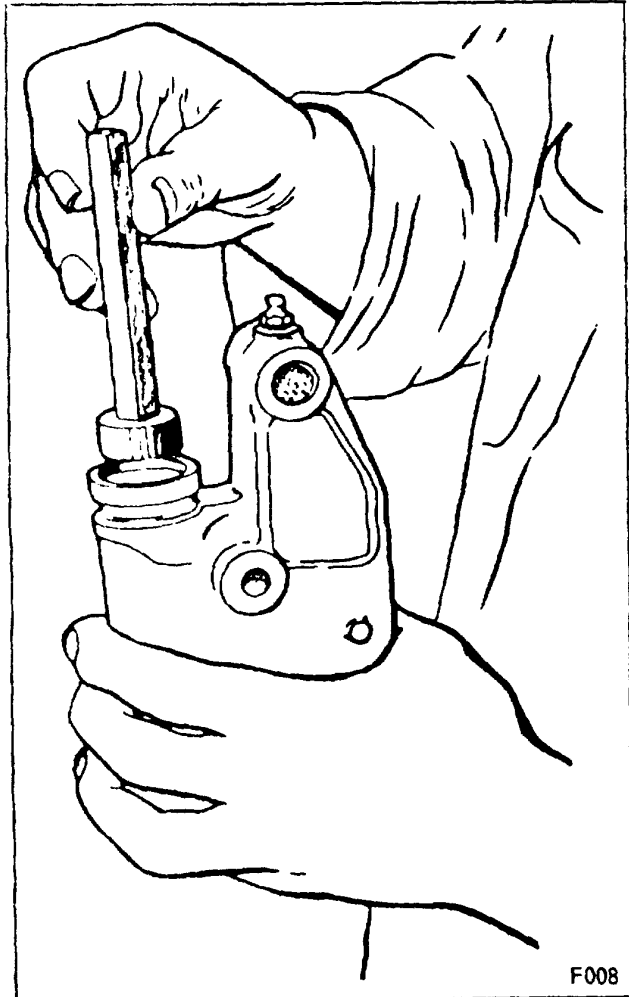

Figure 11.
3. Measure cylinder bore diameter. Figure 11 illustrates checking cylinder with a step-gauge. Discard cylinder if diameter is